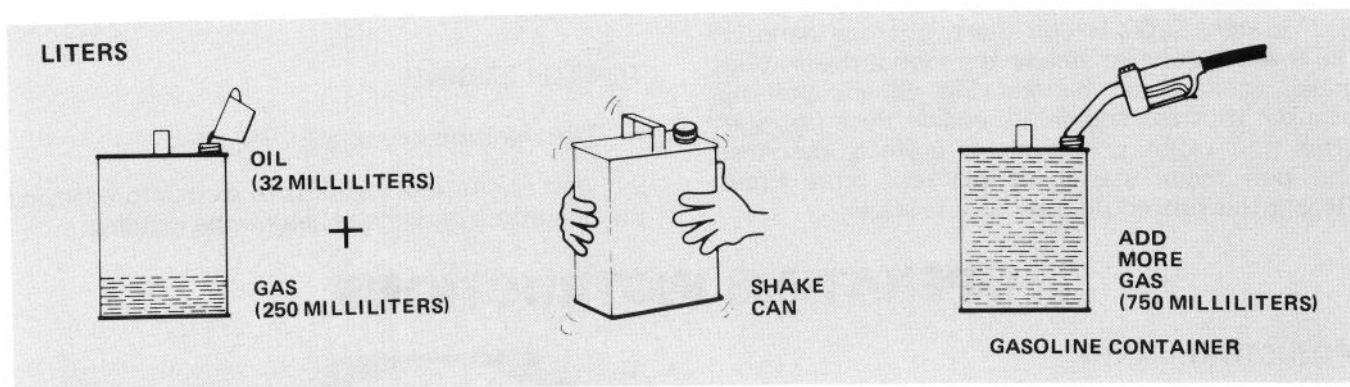

Figure 7C
1. Add 250 milliliters of leaded or unleaded **REGULAR** gasoline to a gasoline container (Fig. 7C).
2. Pour 32 milliliters of two cycle engine oil into the gasoline container (Fig. 7C). **DO NOT** use multi-viscosity oils.
3. Shake the gasoline container vigorously so oil mixes with gasoline (Fig. 7C). Remember to install cap on gasoline container before shaking.
4. Add an additional 750 milliliters of gasoline to the gasoline container (Fig. 7C).